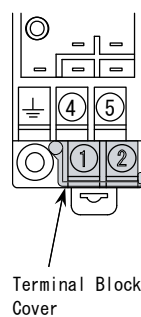
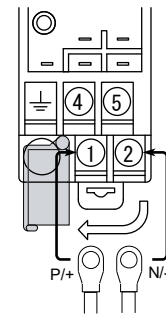

Fig. 1
Fig. 2
(1) Loosen the terminal screw.
(2) Insert the tip of a screwdriver bit beneath the washer and push it up to make ample room to receive a cable.
The terminals for power supply connection (① and ②) are covered with a plastic plate for safety (see Fig. 1). Open the cover plate and connect the power lines to the terminals (see Fig. 2). Return the cover plate to its original position (see Fig. 3).